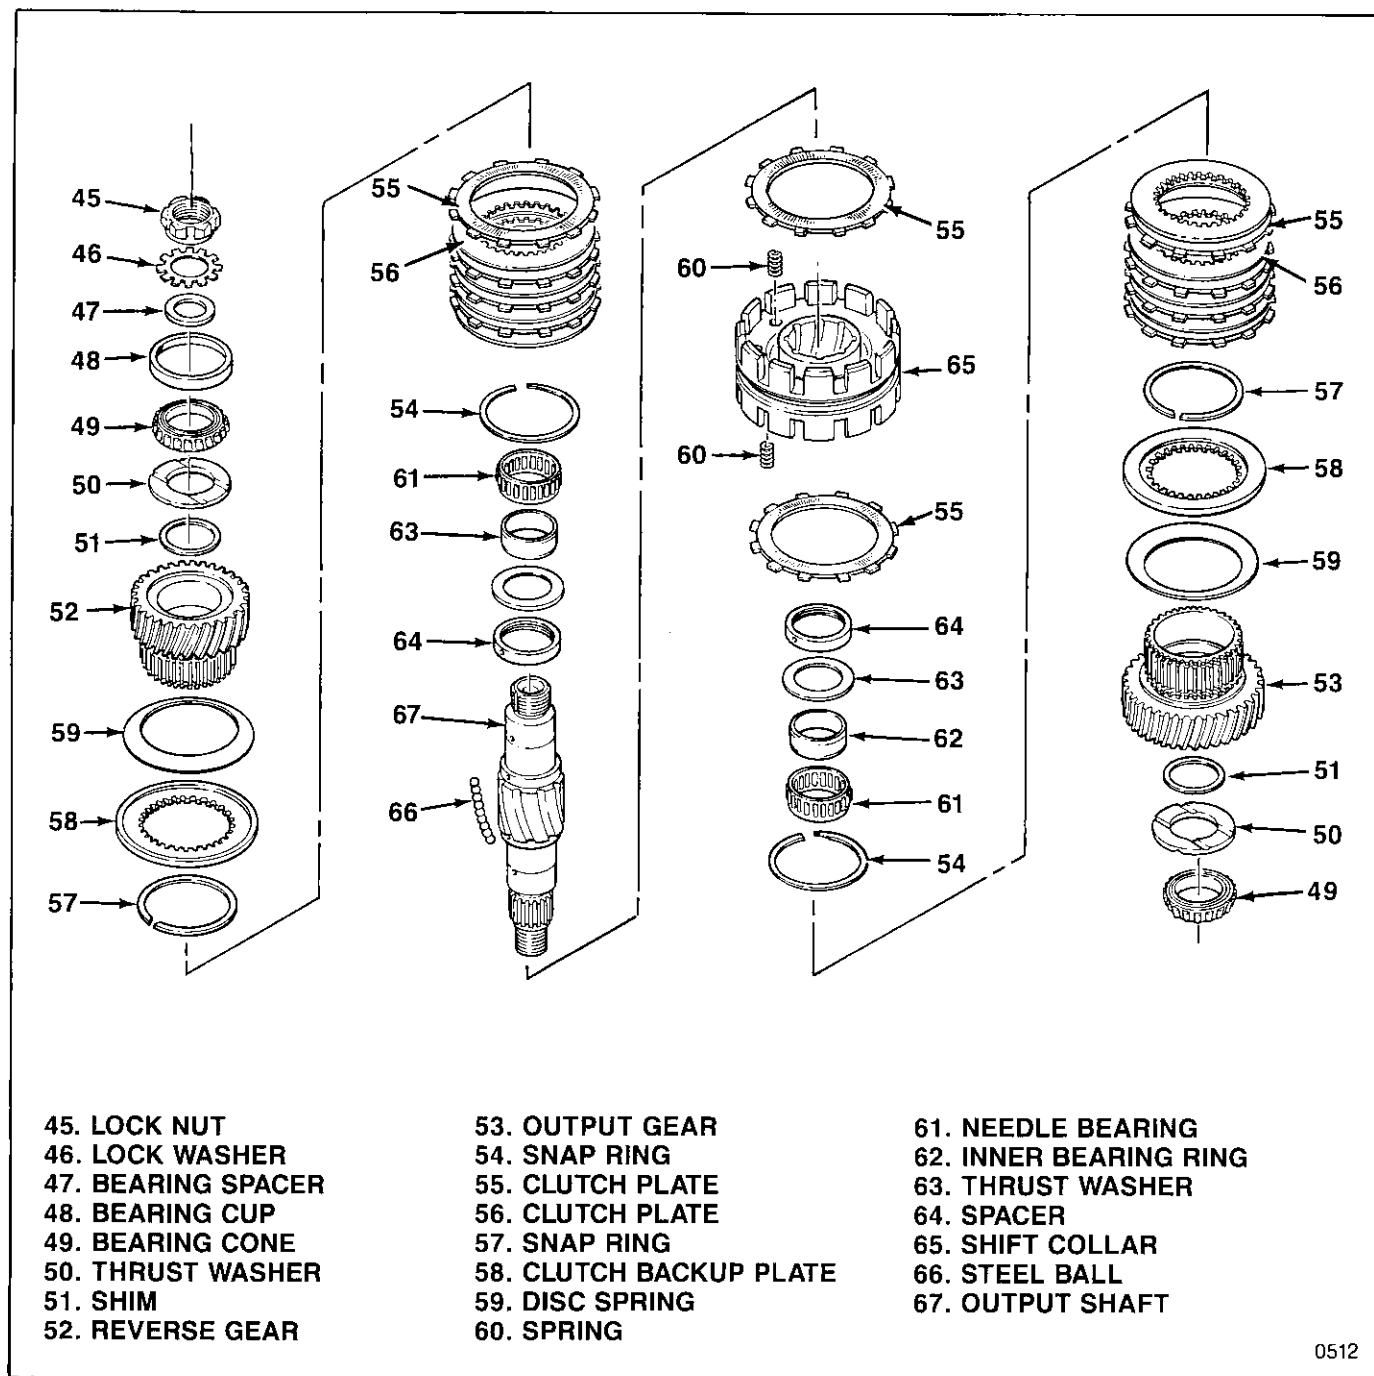
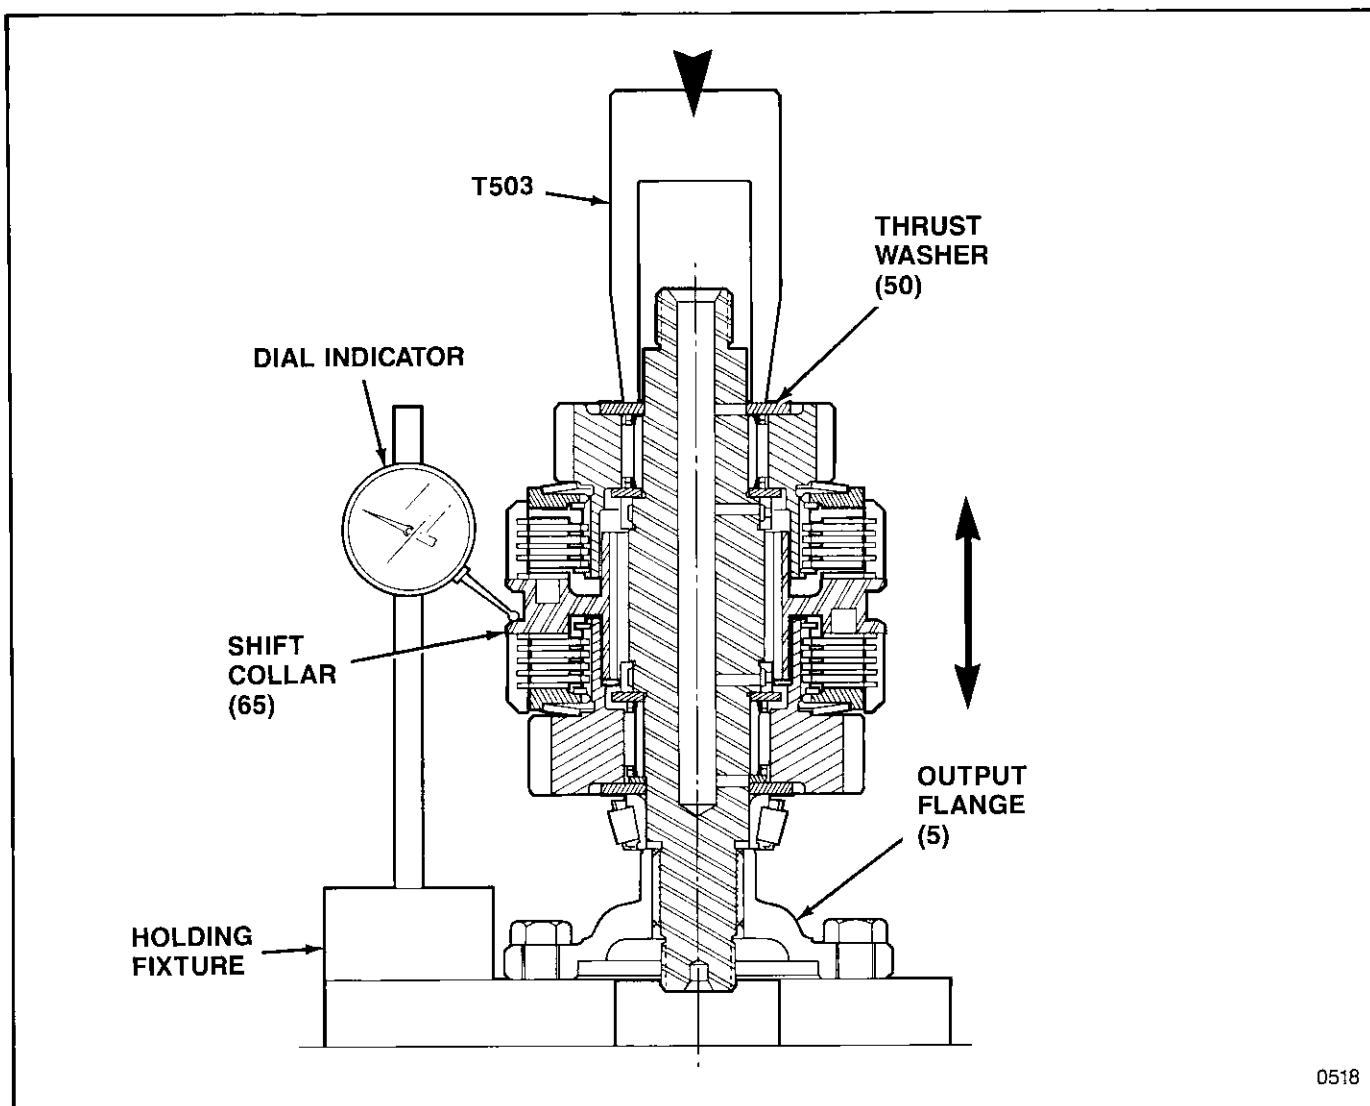

Figure 5-5. Output Shaft Group
Figure 5-6. Measuring For Output Shaft Shim
5-7. SHIMMING OUTPUT SHAFT GROUP. Determine the thickness of shims (51) required for proper shifting as follows (see figure 5-5):
1. Support output shaft (67) with splined end up, threaded end down. Install parts as follows over splined end of output shaft only:
- One spacer (64).
- One thrust washer (63).
- One inner bearing ring (62). Use thrust washer (50) and bearing drift T-503 to press inner bearing ring onto output shaft (67) until ring bottoms out.
- One needle bearing (61).
- Shims (51) with thickness totalling 0.073 in. (1.84 mm).
- One thrust washer (50).
- One bearing cone (49). Use bearing drift T-503 to press bearing cone onto output shaft (67) until bearing cone bottoms out.
2. Invert output shaft (67) and assembled parts and support in suitable fixture with threaded end up, splined end down. An output flange (5, figure P-1) bolted to a metal block with a central hole for shaft clearance (see figure 5-6) makes a suitable fixture. Temporarily install parts as follows over threaded end of output shaft only:
- Shift collar (65). Do not install steel balls (66) or springs (60) at this time.
d. One inner bearing ring (62). Use thrust washer (50) and bearing drift T-503 to press inner bearing ring onto output shaft (67) until ring bottoms out.
e. One needle bearing (61).
g. One thrust washer (50). Do not install shims (51) at this end of shaft at this time.
3. Position output shaft as assembled on holding fixture in arbor press (see figure 5-6). Install bearing drift T-503 over threaded end of shaft and clamp on thrust washer (50) with press ram. Make sure parts are bottomed out but do not use excessive force.
4. Position dial indicator on bottom side of groove in shift collar (65) as shown in figure 5-6).
5. By hand, press down firmly on shift collar (65) to make sure clutch pack is bottomed out, and zero dial indicator. Next, lift up firmly on shift collar and read dial indicator. Record dial indicator reading as dimension "D".
5-8. FINAL ASSEMBLY OF OUTPUT SHAFT GROUP. Remove output shaft group as assembled on holding fixture for shim measurements from arbor press and remove bearing drift from shaft. Proceed as follows (see figure 5-5):